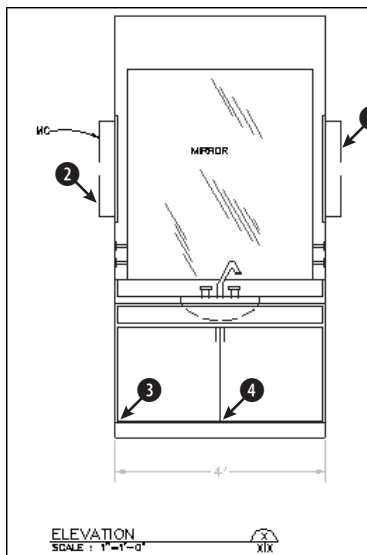
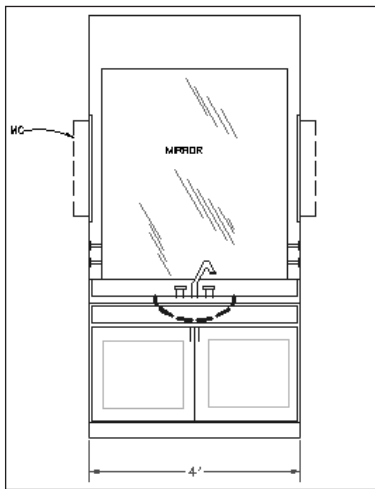

Figure 11-24: A lavatory cabinet
Figure 11-25: The finished cabinet
2. Save the file as `ab11-04.dwg` in your AutoCAD Bible folder. This is an elevation view of a lavatory cabinet, shown in Figure 11-24.
5. Pick the lines at ① and ② in Figure 11-24. Click the Linetype Control drop-down list and choose the Hidden linetype. Press Esc so that the hidden lines are no longer selected.
8. Start the RECTANG command. Draw a rectangle inside the left cabinet. Use the COPY command to copy the rectangle to the right cabinet. (To copy, use an intersection object snap at point ③ as the base point and ④ as the second point of displacement.) The rectangles are drawn in Cyan.
9. Save your drawing. It should look like Figure 11-25.